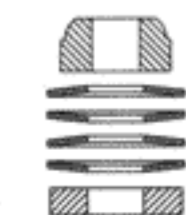

Figure 3A
- ❑ Step 11. Place the pulley flange (16) next to the pulley (14) and center it over the shoulder on the pulley (14). The side of the flange (16) with the ring cut in it should face away from the pulley (14).
- ❑ Step 12. Position one of the two slipper thrust washers (17) next to the pulley flange (16). Center the thrust washer so that it sits over the shoulder on the pulley (14). Slide the slipper thrust bearing (18) over the slipper shaft (7), next to the thrust washer (17), followed by the second thrust washer (17).
- ❑ Step 13. Slide the thrust bearing spacer (19), small flange side first, down the shaft (7) next to the outer thrust washer (17). The small flange on the spacer (19) should fit into the center of the outer washer (17) and the thrust bearing (18) so that the large portion of the spacer (19) rests flush against the outer washer (17).
- ❑ Step 14. Place a 3/16" x 3/8" bearing (20) next to the thrust bearing spacer (19). Slide the small plastic bearing washer (21) over the set screw (8) in the shaft (7) so that it rests against the bearing (20).
- ❑ Step 15. Stack the four 1/8" Belleville washers (22) in opposing directions as shown in Figure 3A so that the small side of the first washer (22) rests against the bearing washer (21). The small side of the fourth washer (22) should face the outside of the assembly.
- ❑ Step 16. Thread the 5-40 locknut (23) onto the set screw (8) by hand. Insert the 1/16" Allen wrench (9) into the open hole in the shaft (7). Tighten the nut (23) until it just touches the outside Belleville washer (22). From this point, tighten the nut (23) one full turn (360°). This should be a good starting point for the slipper adjustment.